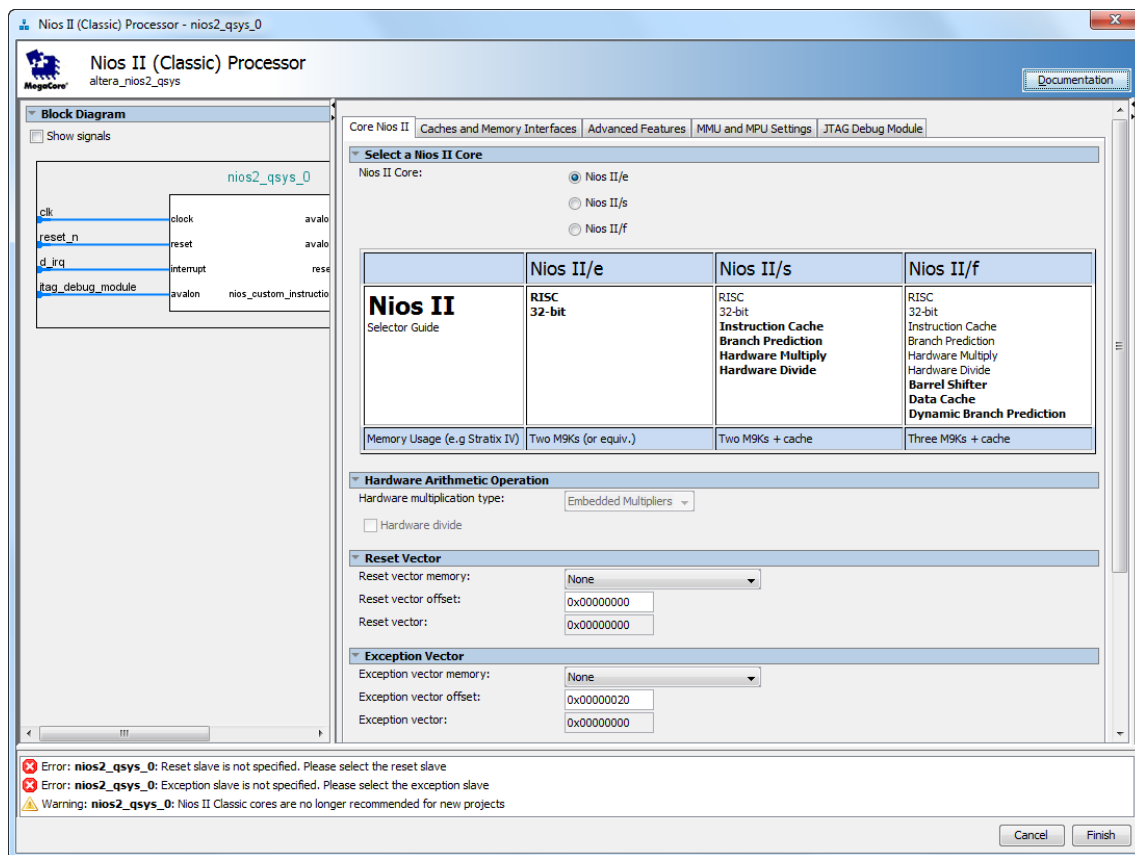

Figure 5. Create a Nios II processor.
- On the left side of the Qsys window expand Processors and Peripherals, select Embedded Processors > Nios II (Classic) Processor and click Add..., which leads to the window in Figure 5.